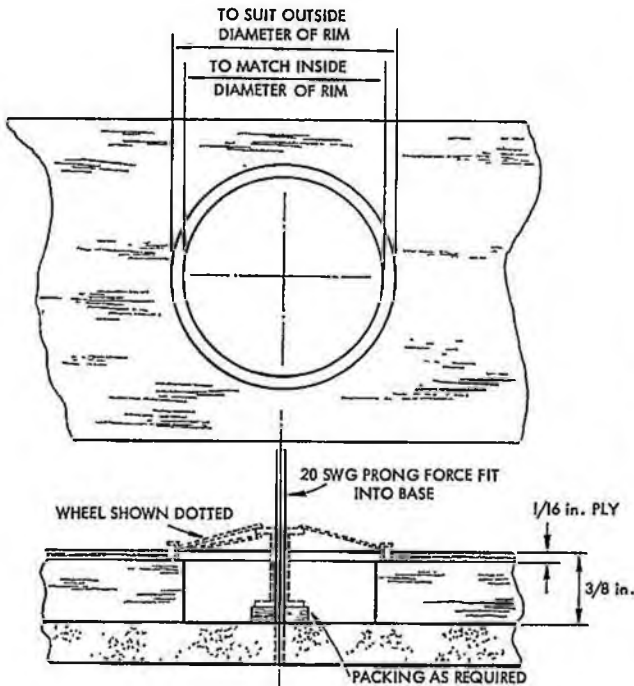

FIGURE 2 - Assembly jig
2. Make from scrap materials (wood or plastic) the assembly jig shown in *Figure 2* making sure that the hole for the rim provides a light push fit for same.
4. Insert rim and hub into jig (Figure 2) remembering to pack the hub until the required overhang is established above the rim. Note that many early aircraft had a symmetrical overhang on the hubs i.e. Bleriot monoplane, however 1914-18 aircraft often had unequal overhang on hubs (i.e. SE5). Either method can be employed on your model wheel.